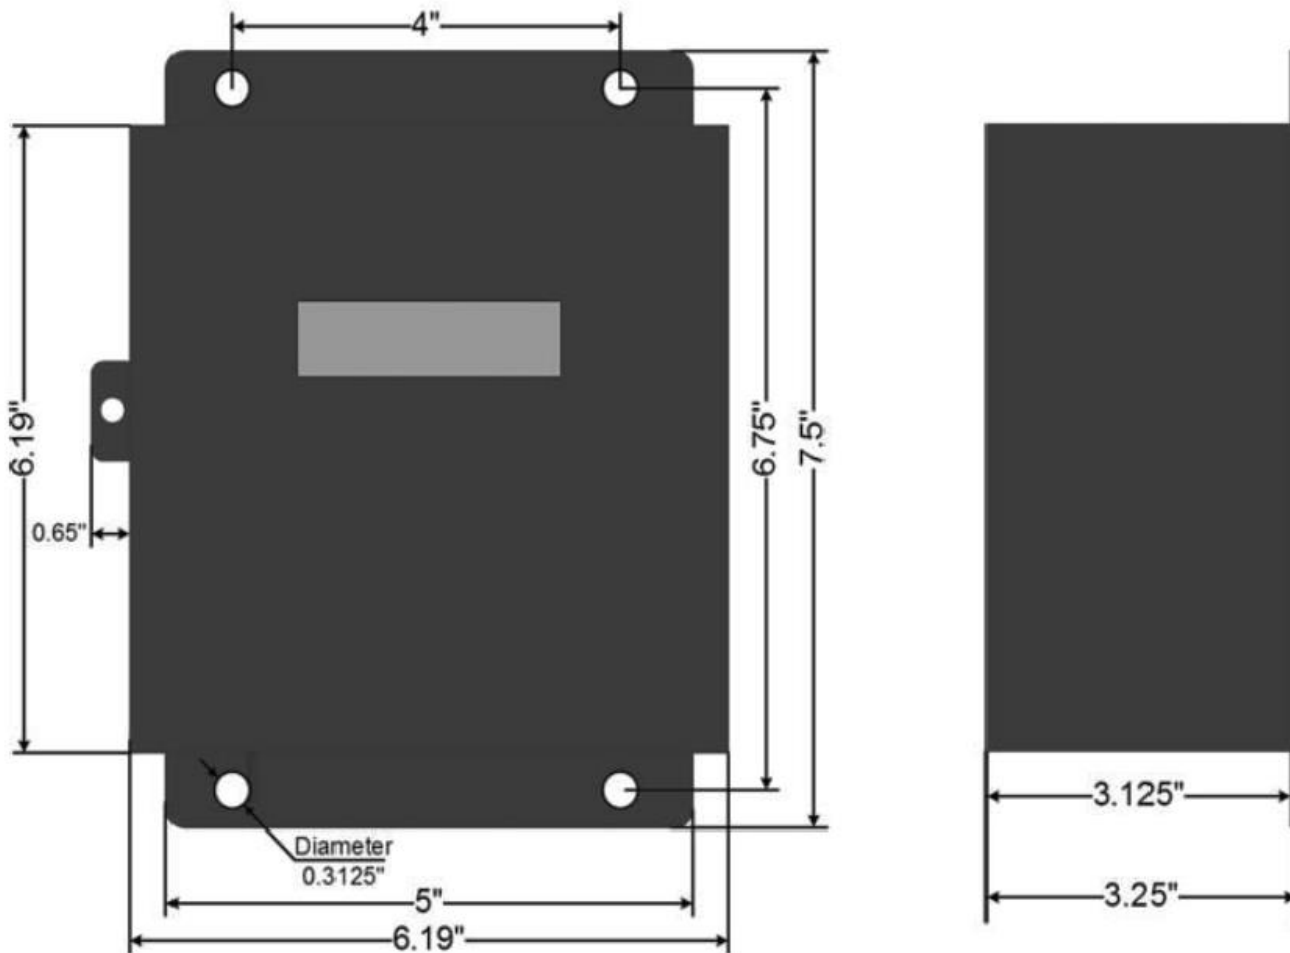

Figure 1: Steel enclosure dimensions
1. Industrial grade JIC steel enclosures for indoor installations shown in Figure 1